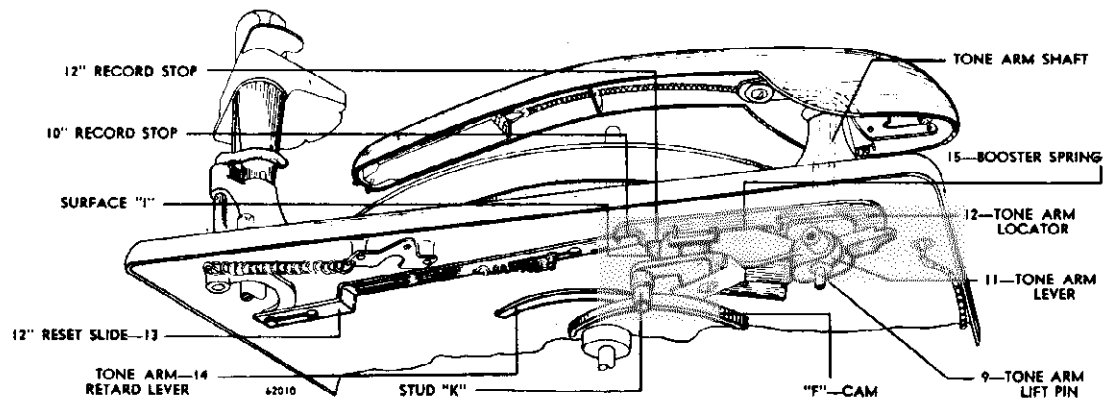

FIGURE 10. CUTAWAY BOTTOM VIEW DRIVE GEAR
4. Cam surface "g" moves the tone arm latch lever (21) so as to unlatch the tone arm lever (11) at point "h". Thereafter the stud "k" on the tone arm lever follows the recoding cam "f", shown in figure 10.
5. Spring pressure from tone arm locator (12) moves the tone arm lever (11) and tone arm toward the record. Selector arm settings determine the point at which the tone arm locator (12) stops at surface "i" on the 12" reset slide (13). Sketch above shows 10" and 12" record stops.
6. Stud "k" is contacted by the retard lever (14) holding it in position during the time of lowering the needle on the record. (See retard lever.)
7. Tone arm lift pin (9) follows vertical cam on drive gear and lowers tone arm to the record. After the needle has touched the record, booster spring (15) exerts a slight pressure, causing the needle to enter starting groove.
8. As the needle starts in the groove, drive gear (8) completes its rotation and is locked in open-tooth position by the drive gear stop lever (16) in detent in cam "g".
D. AUTOMATIC TRIPPING—At the end of a record, the needle enters the cut-off groove and a new change cycle is set in motion by either of two actions releasing the clutch engagement lever (6).